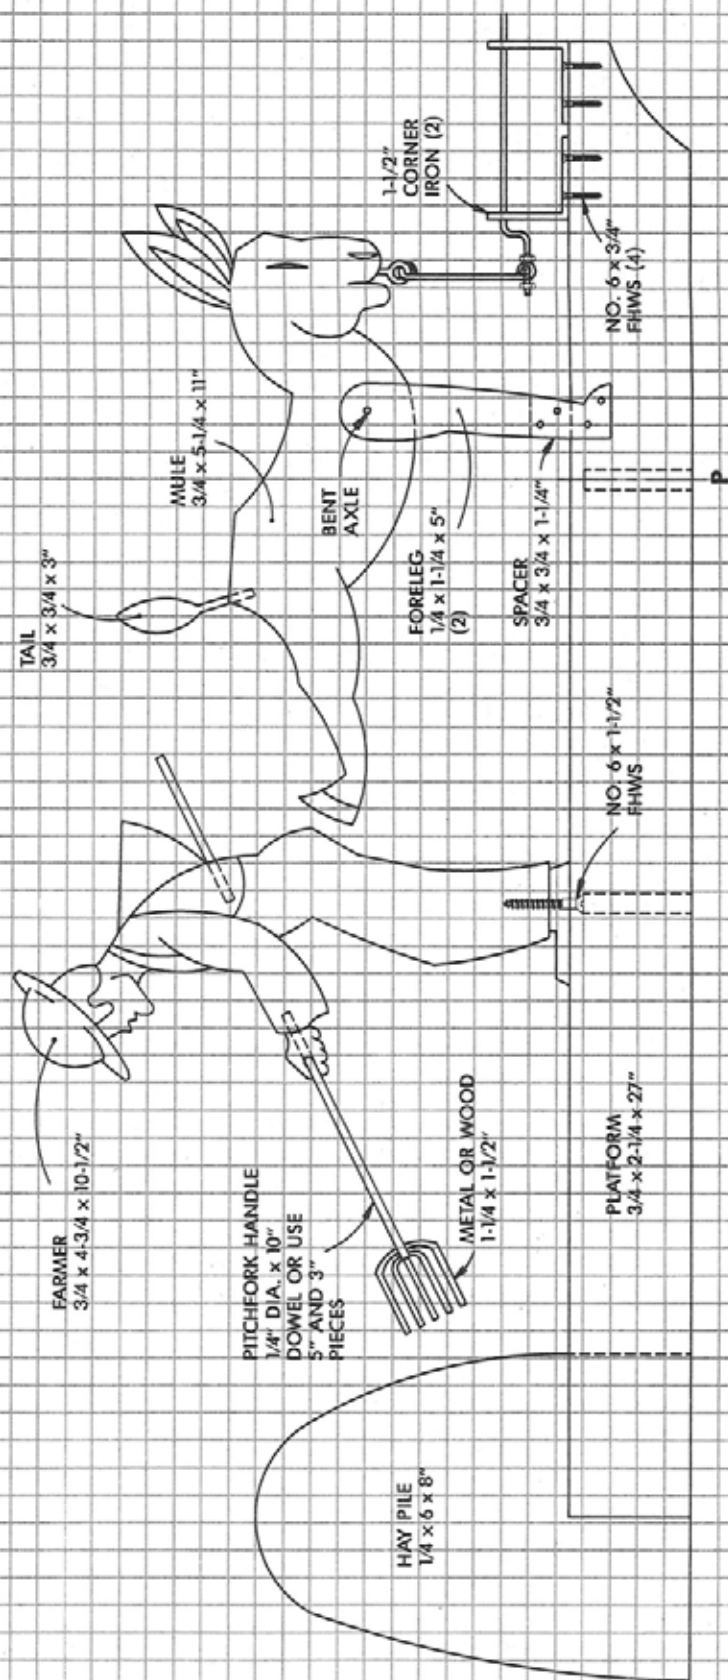

Figure 4-23. Plan for Mule Kicking the Farmer whittig.
1. Make the longer-than-usual platform using the above dimensions, then mark where objects will be located (Fig. 4-23). Make a $1/4$ in. slot for the tail in 3 in. from the end. Drill the $3/8$ in. pivot socket 8 in. from the front. Drill the screw hole for the farmer $15-3/4$ in. from the front. Draw a line $3/4$ in. from the top edge for the mule's front leg along the side of the platform from 6 to 8 in. from the front. Attach the corner irons.